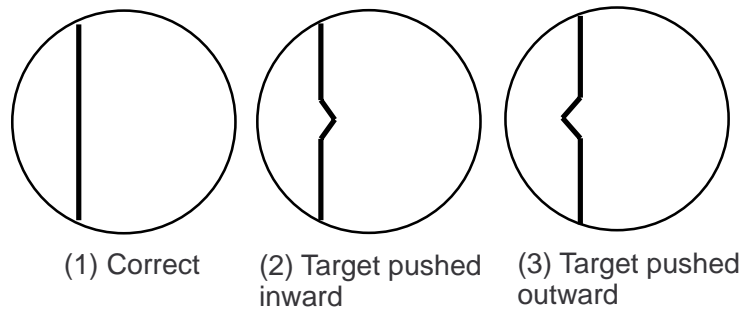

Figure 5-5 Examples of correct and incorrect sweep timings
- The echo of a "straight" target (for example, pier), on the 0.25 nm range, will appear on the display as being pulled inward or pushed outward. See Figure 5-5.